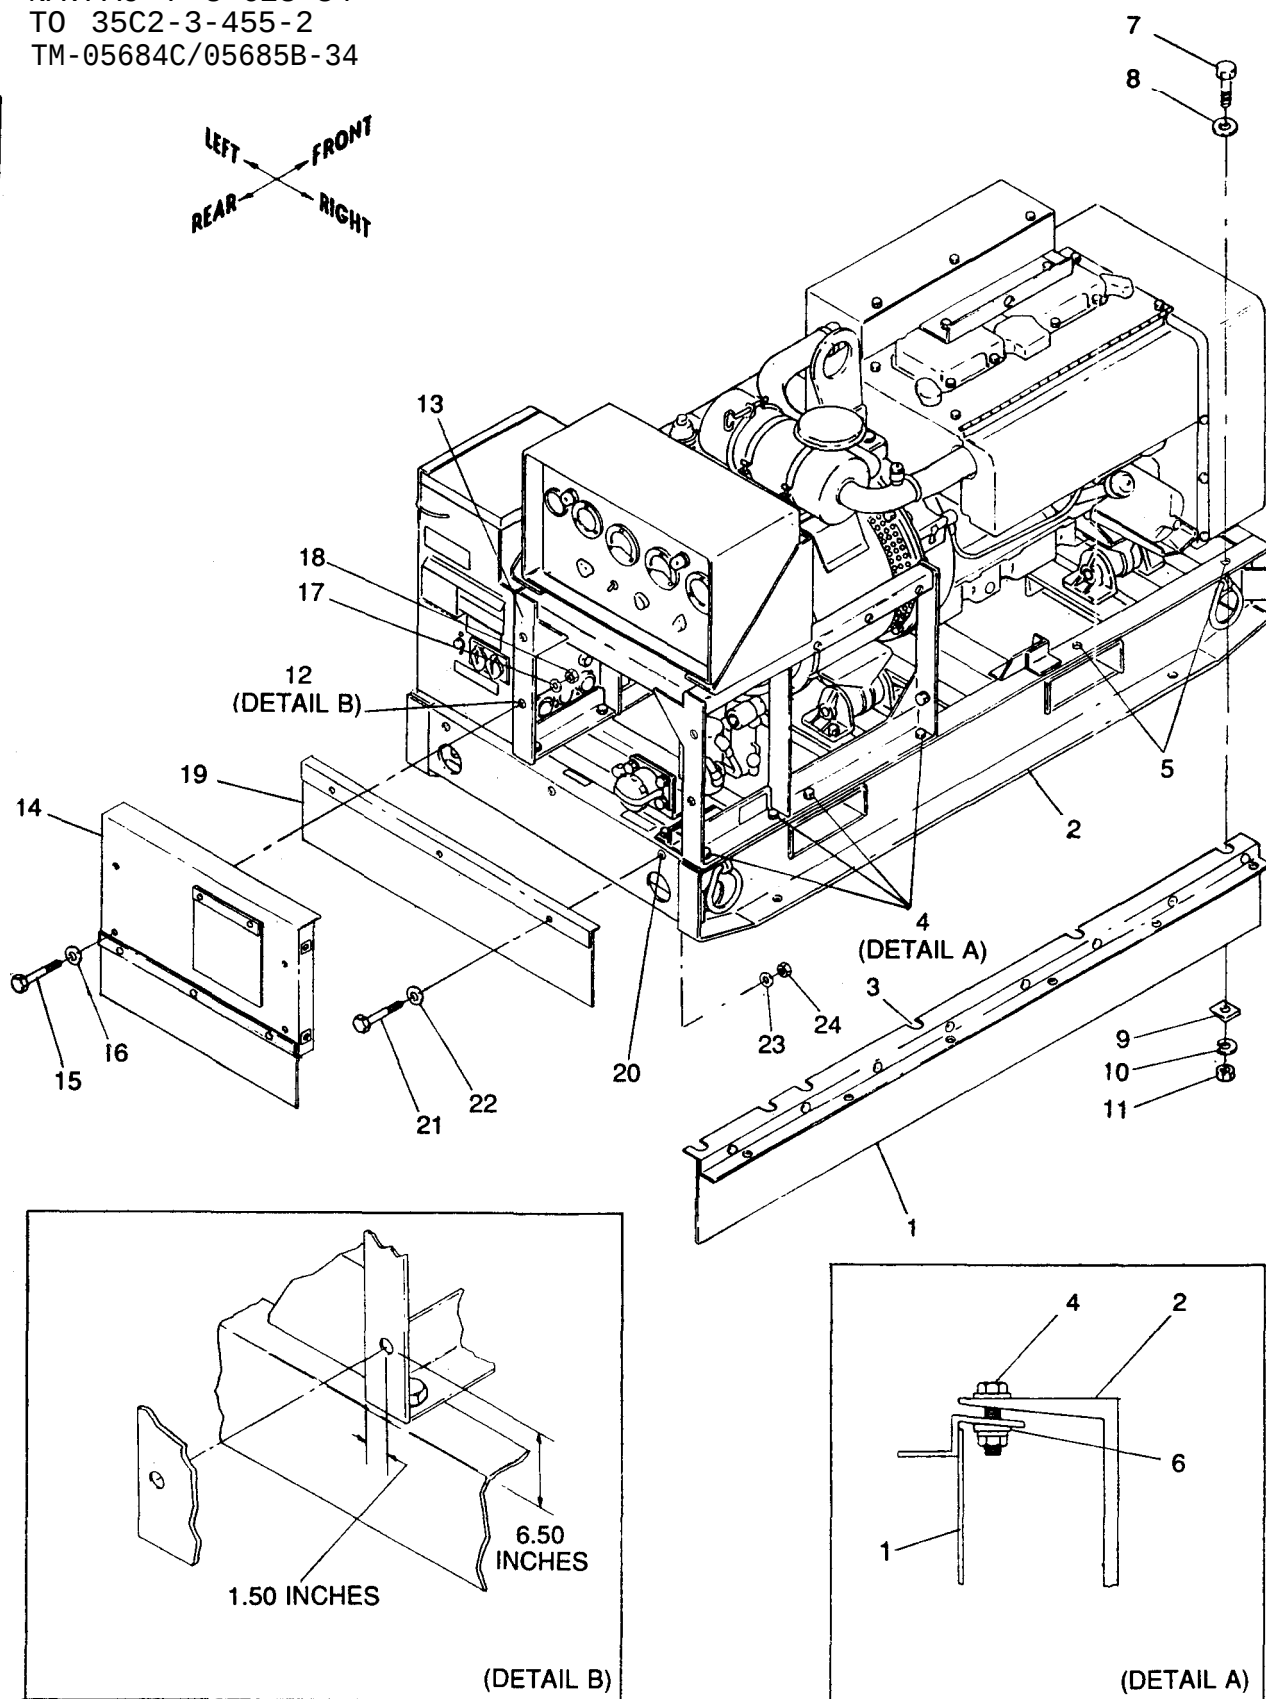

Figure 10-2. Installation of Right Support Assembly, Rear Panel Assembly, and Rear Flap Assembly
- (1) Refer to Operator and Organizational Maintenance Manual paragraph 3-24 and remove engine lifting bracket, shroud and blower housing.
- (2) Refer to figure 10-2 and locate right support assembly (1) on skid (2). Align slots (3) in support assembly (1) with existing screw heads (4) and using support assembly (1) as template, mark the two additional mounting holes (5).
- (3) Drill two 7/16 inch holes (5) into skid (2) for right support assembly (1).
(1) Refer to figure 10-2, detail B and drill one 5/16 inch guide hole (12) in generator set control cubicle support frame (13) at location shown.
(2) Using rear panel assembly (14) as template, align drilled guide hole (12) with bottom left rear panel assembly hole and mark location of three remaining holes in generator set control cubicle support frame (13). Drill three 5/16 inch holes.
(3) Cut a 11 3/4 in. length of adhesive backed teflon tape (as listed in Table 10-1, item 3). Apply adhesive backed teflon tape to a clean right side surface of rear panel assembly (14) (surface with 2 captive nuts). Use hand pressure to remove air bubbles. Clear tape from captive nut openings.
(4) Refer to figure 10-2 to install rear panel assembly (14) to generator set control cubicle support frame (13) with four screws (15), eight washers (16 and 17) and four locknuts (18) (listed in table 10-1, item 3).
(5) Torque screws (15) to 16 $\pm$ 2 ft-lbs dry.
(1) Refer to figure 10-2 and using rear flap assembly (19) as template, center assembly on skid, resting rear flap assembly angle on top of skid (2). Mark mounting hole locations and drill three 5/16 inch holes (20) into skid (2).
(2) Install "rear flap assembly (19) to skid (2) with three screws (21), six washers (22 and 23) and three locknuts (24) (listed in table 10-1, item 4).
(3) Torque screws (21) to 16 $\pm$ 2 ft-lbs dry.